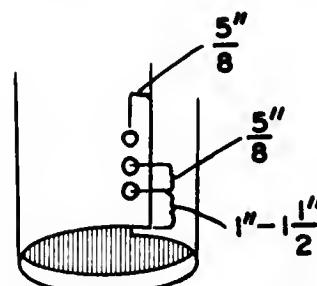

Fig. 259B. Sleeve buttons.
- C. On a man's suit coat the bottom button is about  $1\frac{1}{2}$  in. from the sleeve bottom. The centers of the buttons are  $\frac{5}{8}$  to  $\frac{3}{4}$  in. apart and  $\frac{5}{8}$  to  $\frac{3}{4}$  in. from the seam (Fig. 259B).